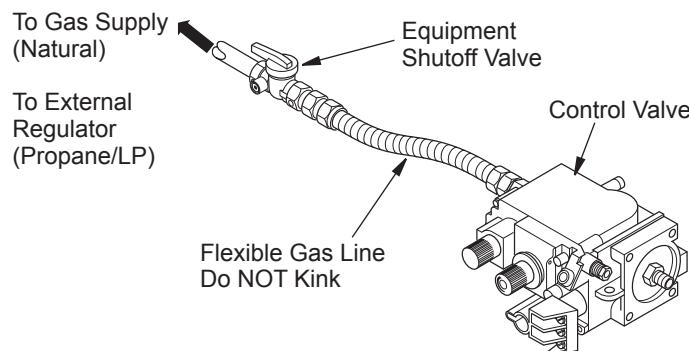

Figure 32 - Connecting Flexible Gas Line to Millivolt Valve
- 3. Attach flexible gas line from gas supply to control valve (see Figure 32).